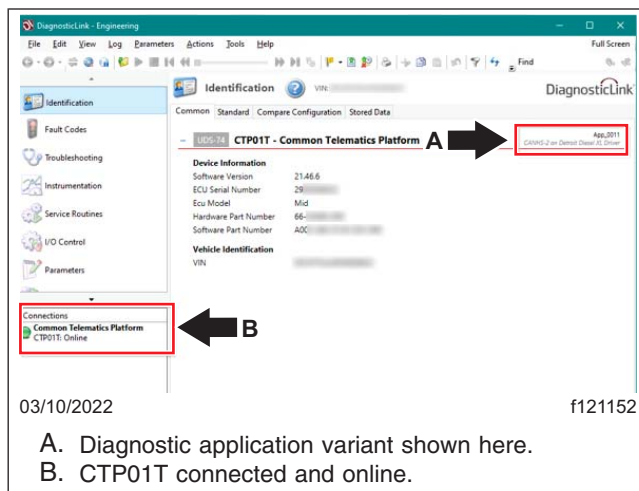

Fig. 27, Diagnostic Application Variant
8. After a successful connection to CTP01T, make sure the diagnostic application variant appears in the upper right corner, and starts with 'App_'. See Fig. 27. If the diagnostic application variant starting with 'App_' is not present, close the CTP01T connection and repeat the previous step.